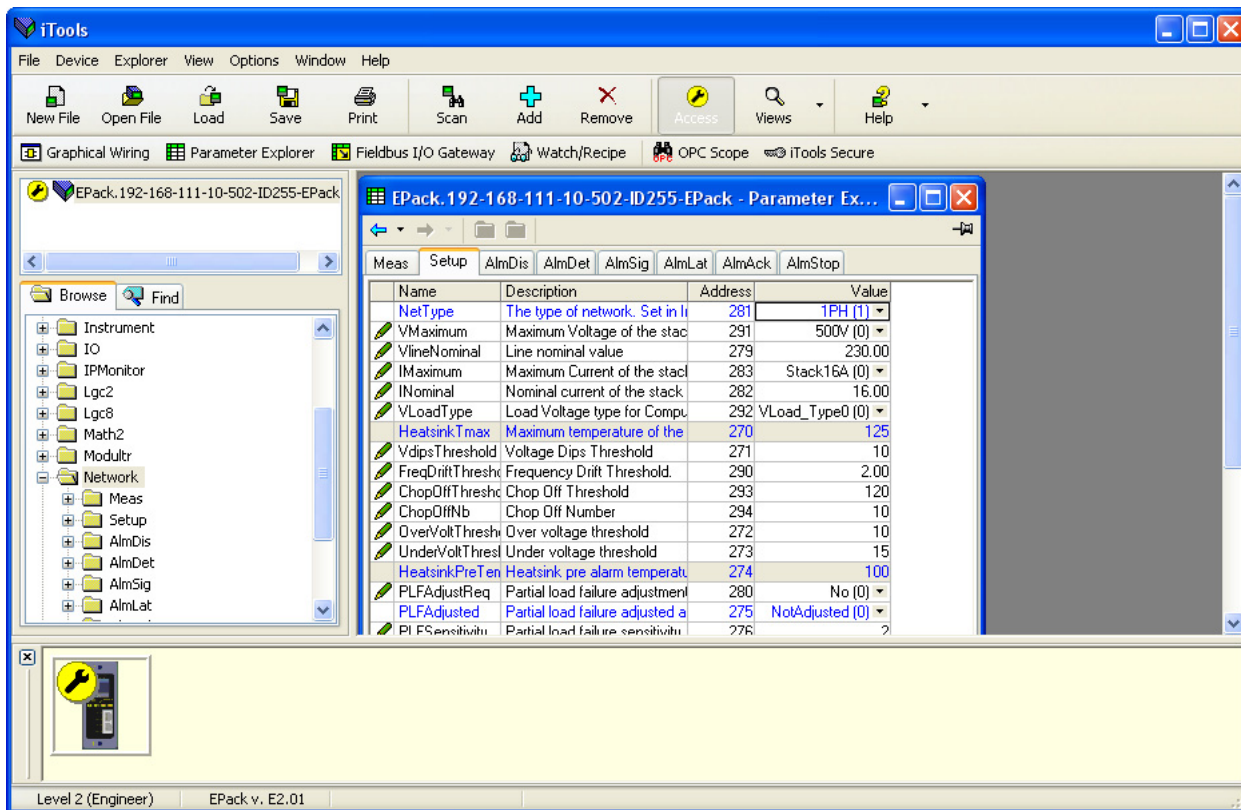

Figure 8.127 Parameter table example
In each case the function block parameters appear in the iTools window in tabular form, such as the example in figure 8.127.
- Parameters in blue are non-editable (Read only). In the example above all the parameters are read only. Read/write parameters are in black and have a 'pencil' symbol in the 'read/write access column at the left edge of the table. A number of such items are shown in figure 8.127, above.
- Columns. The default explorer window (figure 8.127) contains the columns 'Name', 'Description', 'Address' and 'Value'. As can be seen from figure 8.130, above, the columns to be displayed can be selected, to a certain extent, using either the 'Explorer' menu or the context menu. 'Limits' have been enabled for the example above.